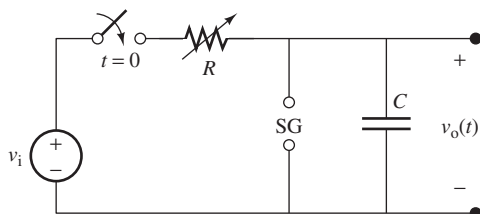
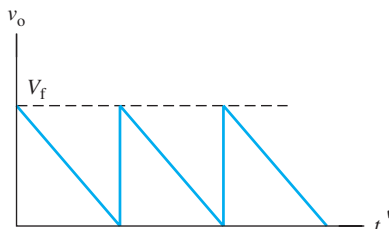

FIGURE P5.13 A sawtooth signal generator (SG).
FIGURE P5.17 The sawtooth wave for Problem 5.17.
The voltage, $v_0(t)$, across the capacitor, C , in the circuit shown in Figure P5.13 is a sawtooth waveform. The resistor, R , is adjustable. An SG represents a spark gap, which consists of two electrodes with adjustable distance. When the voltage across the SG is small, the SG is open. When that voltage exceeds the breakdown voltage, V_f , a spark will jump across the electrodes so that SG gets short-circuited. When the voltage across SG drops to zero, the SG is an open circuit. Close the switch at $t = 0$ and draw the waveform of $v_0(t)$.
5.17 (H) Given the circuit shown in Figure P5.13, assume that you are provided with an extra voltage source supplying v_f . Use these components to design and sketch a new circuit that can generate a voltage waveform v_o as shown in Figure P5.17.